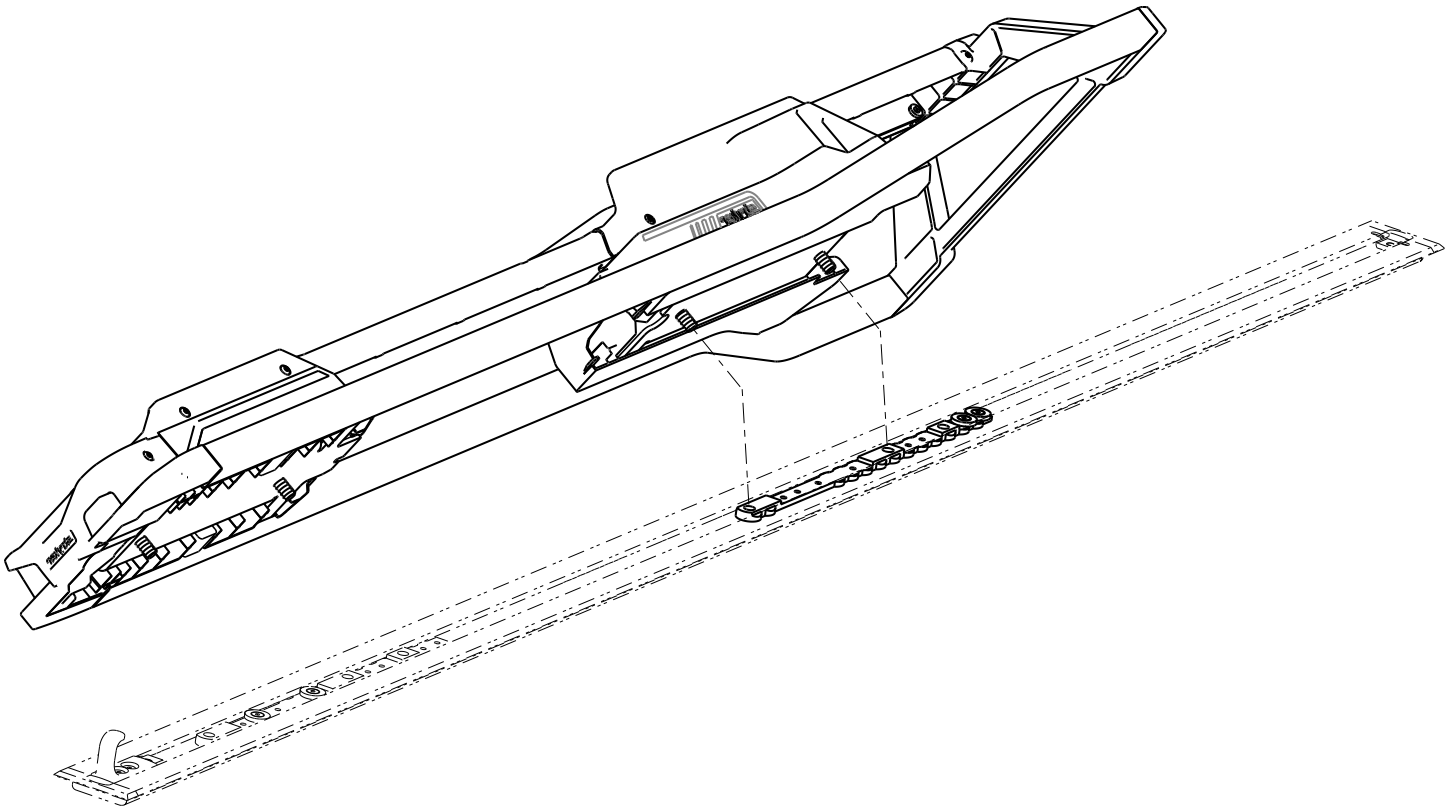

Figure 5 – Performance-LOAD alignment
1. Carefully place **Performance-LOAD** on top of the floor plate assembly. Align the two bolts at the head end with the two holes in the cleat as shown in Figure 5.